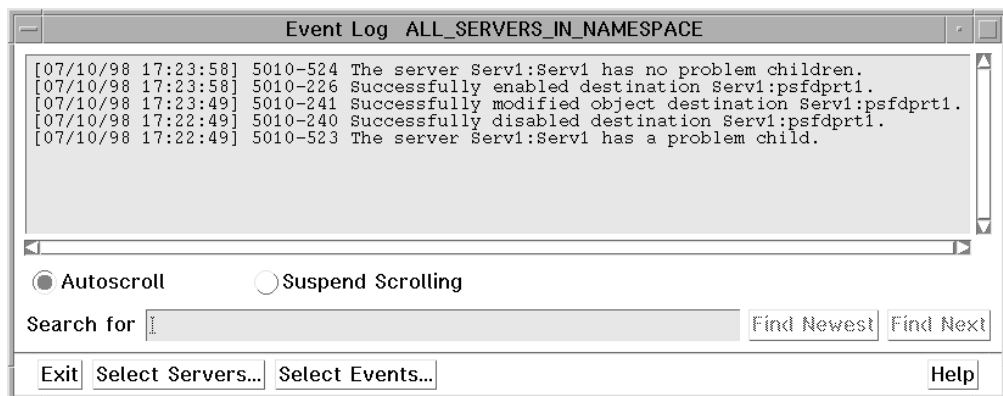

Figure 22. The Event Log Window
- When Infoprint assigns a job to a queue, it makes an entry in the event log, as shown in Figure 22. The job icon appears in the well for the queue and in the Queue/Jobs window. As Infoprint processes the job, it makes an entry in the event log, and the job icon changes to a job processing icon. When the job completes, Infoprint makes an entry in the event log. Infoprint deletes the icon for the job or moves the icon to the retained jobs folder if the job has a non-zero retention period.